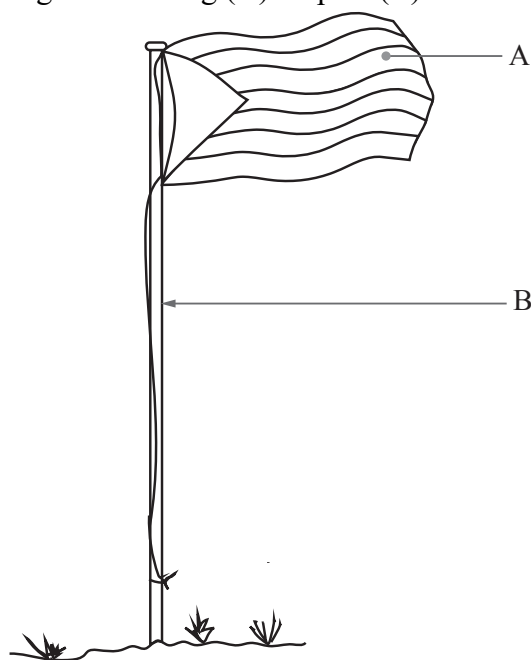

Fig. 4(a)
- 4 **Figure 4(a)** shows a diagram of a flag (A) on post (B).